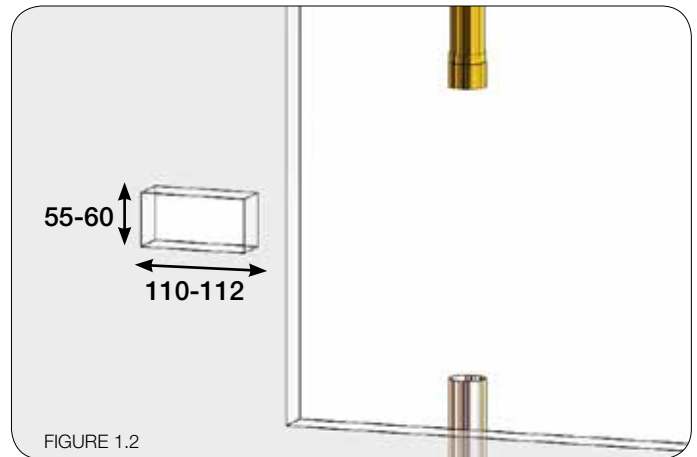

FIGURE 1.2
8. When the wall is fitted, allow 55mmx110mm cut out for fascia plate fixing. (Figure 1.2) Note: Ideal button height is approximately 700mm from top of pan.